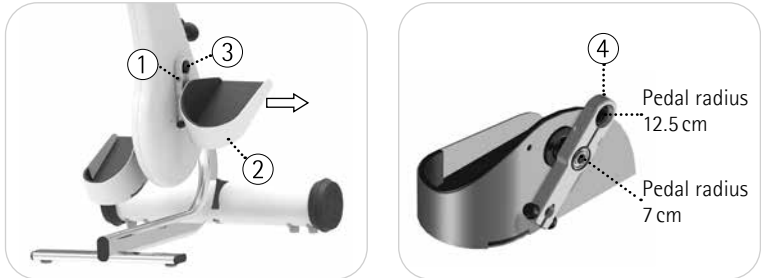

Fig. 5.19, 5.20
see Fig. 5.19, 5.20 To change the pedal radius, release the hexagon socket screw with the supplied Allen key SW4 ①.